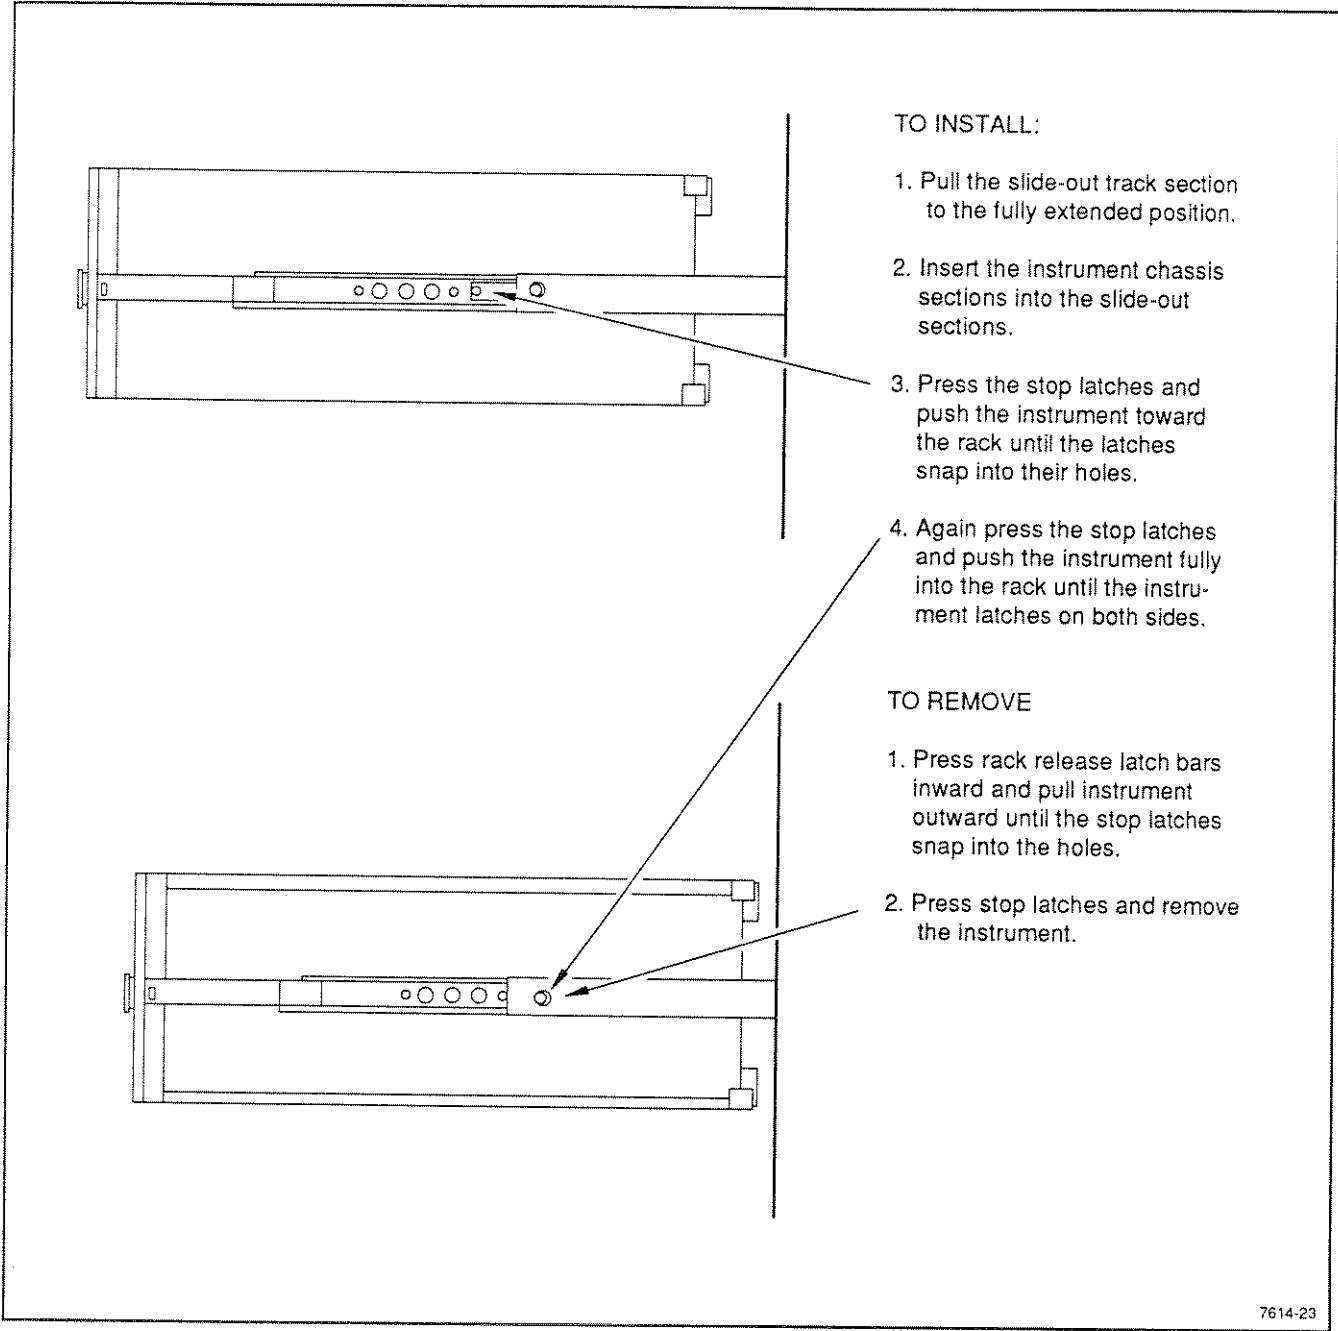

Fig. 2-9. Removing and installing TM 5006A in rack slides.
**Installing the TM 5006A, Option 10, in the Rack Slides.** Make certain all plug-ins are removed from the power module. Pull the side-out track intermediate sections out as far as they will go. See Figure 2-9. Insert the instrument chassis sections into the intermediate section and push the instrument forward until the instrument chassis section locks into the intermediate section. Now press both buttons protruding from the stop-latch holes in the intermediate sections while pushing the instrument. The instrument can now be pushed into the rack, cabinet, or console. The latches holding the intermediate sections to the stationary sections are automatically operated by the instrument as it is pushed into the rack or cabinet. The quick release latches automatically engage the rack-latch holes in the stationary sections of the rails as the instrument is pushed fully into the rack.